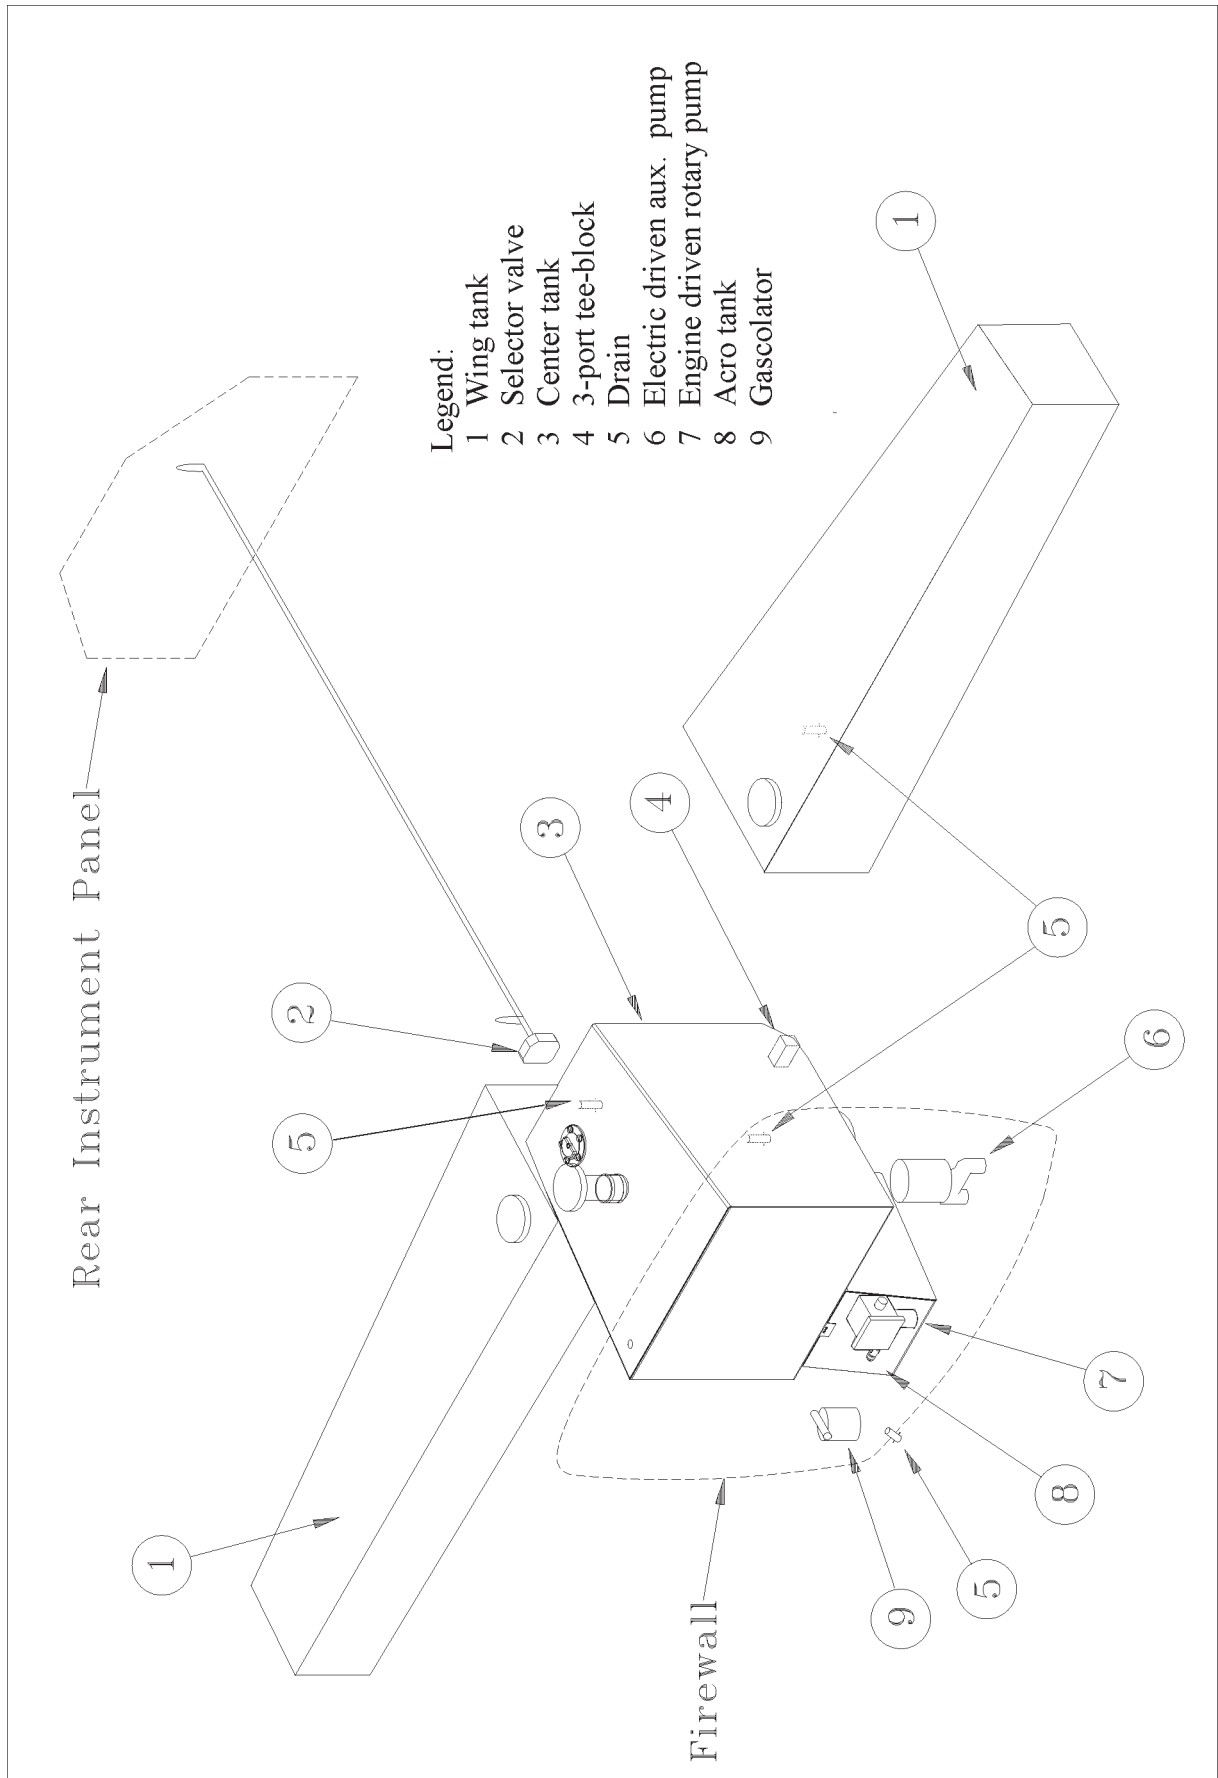

Figure 1
The fuel system (refer to figure 1) consists of one center tank (3), an acro tank (8), two wing tanks (1), a fuel selector valve (2), a gascolator (9), an electrically driven auxiliary pump (6), an engine driven rotary pump (7) and four fuel drains (5).